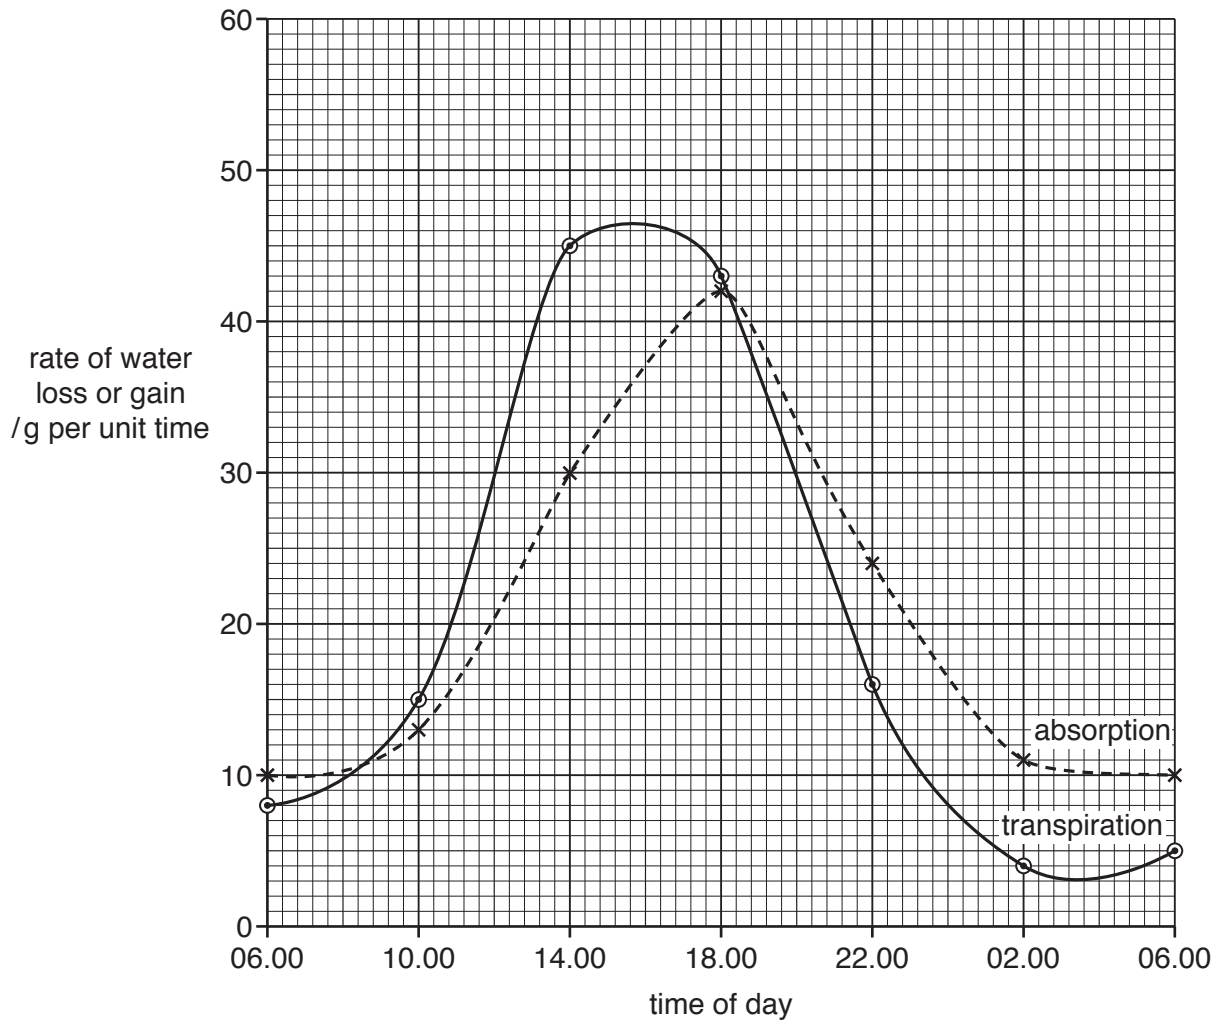

Fig. 2.2
- (c) Fig. 2.2 shows the rate of water gain by absorption and the rate of water loss by transpiration in a plant during a 24-hour period on a hot sunny day.
Compare the trends shown in Fig. 2.2 for the absorption and transpiration of water during the 24-hour period.